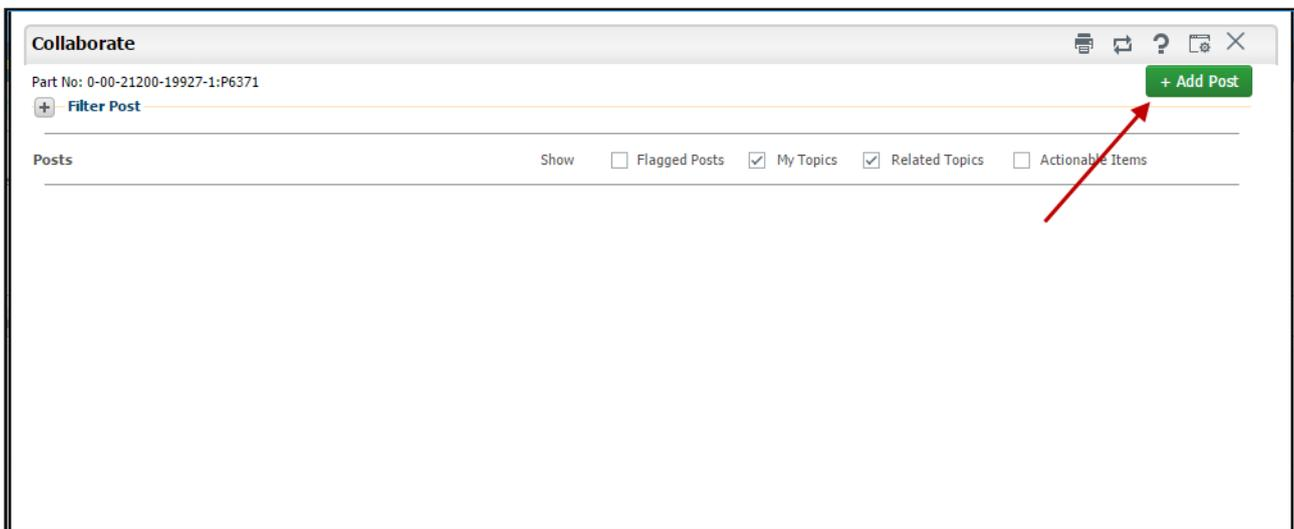

Figure 2.5 Adding a Post
1. Click **Add Post** at the top right corner of the 'Collaborate' screen. *See Figure 2.5.*